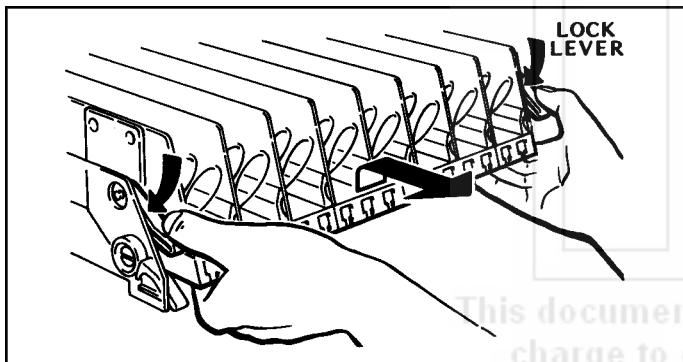

Figure 1. Moving shelf into loading position.
3. **Loading Snack Shelves.** Open door to full open position, push down on white and gray plastic lock levers (*Figure 1.*) on right side panel by shelf to unlock shelf, holding lever down. Grasp the shelf slightly and pull forward until shelf reaches its stop. The shelves tilt down (do not drop) to make loading easier. **Only one product shelf should be in the loading position at a time.** When returning a shelf, be sure the shelf is in its full home or vend position. Begin loading with the top shelf. Move it to the loading position. The height spacing for items is greatest in this shelf and the tallest bagged items should be placed there. Soft items, such as pastry, pies, etc., should be placed in the lowest snack shelf, making the drop distance as short as possible.